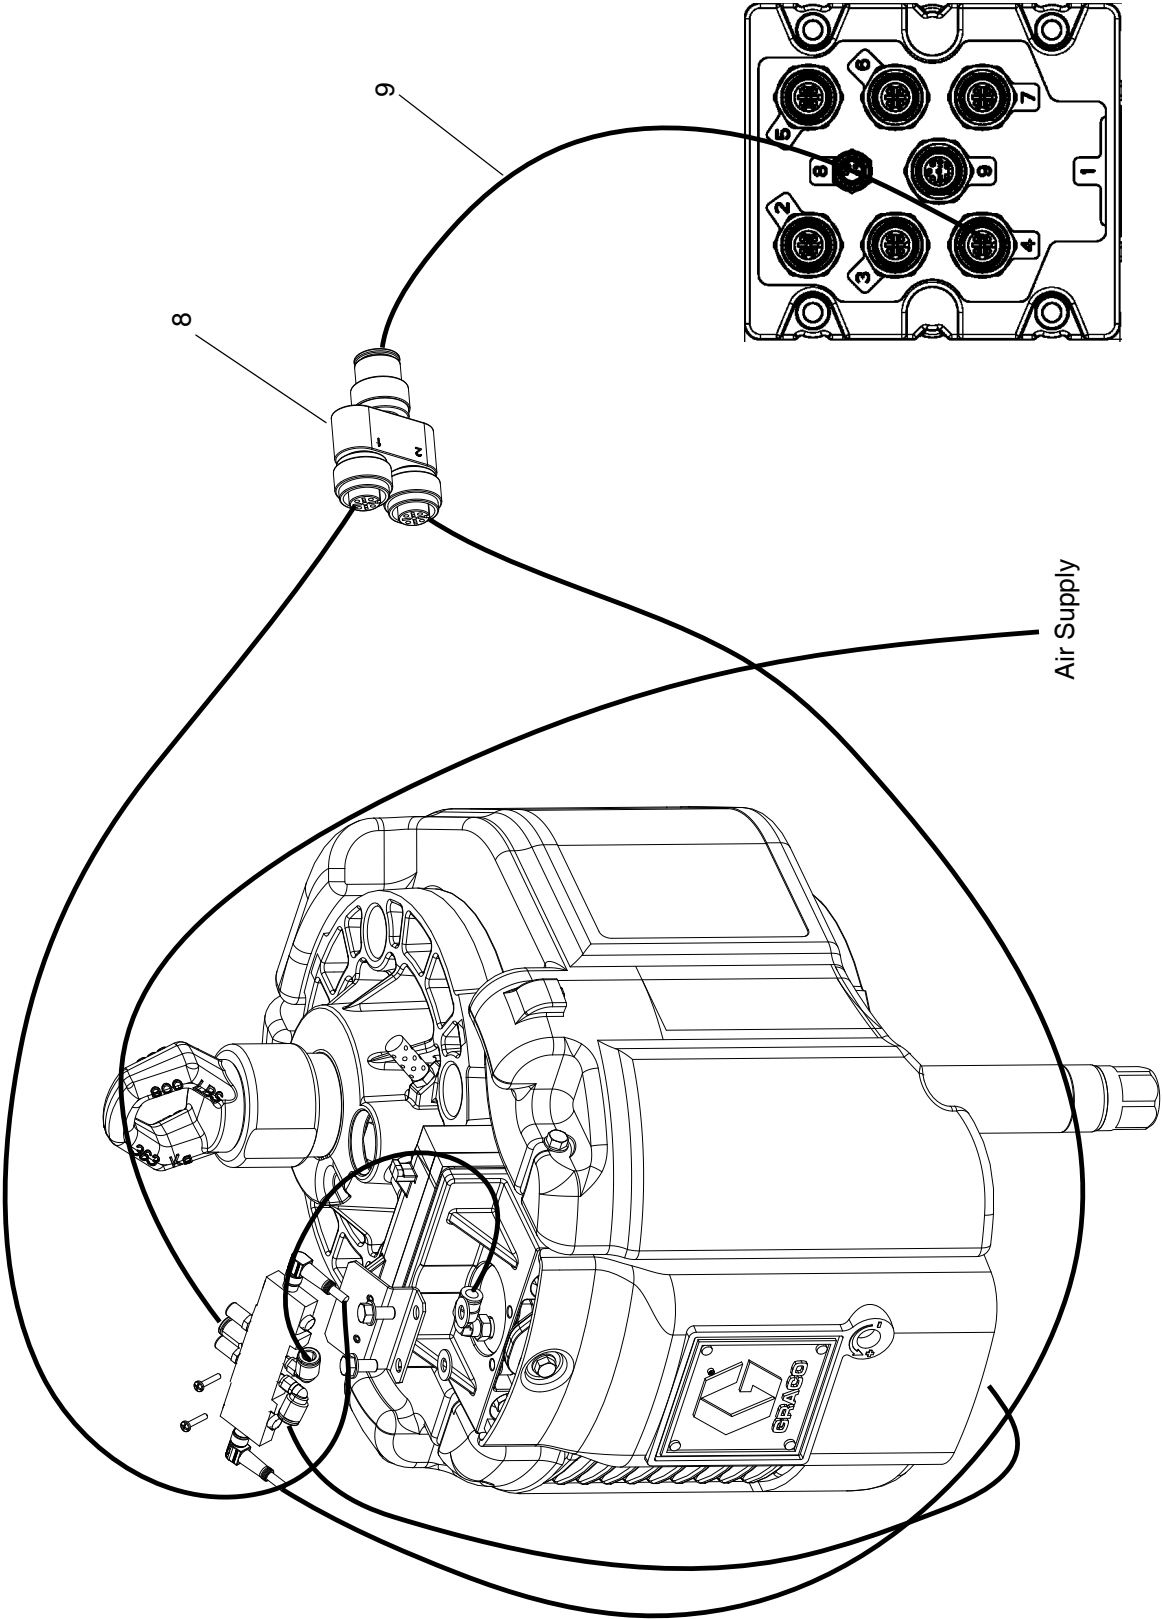

FIG. 8: Connect Cables and Air Lines - NXT2200 and Larger Air Motors
14. Connect cables and air lines as shown in FIG. 8. Cut air line tubes to length.